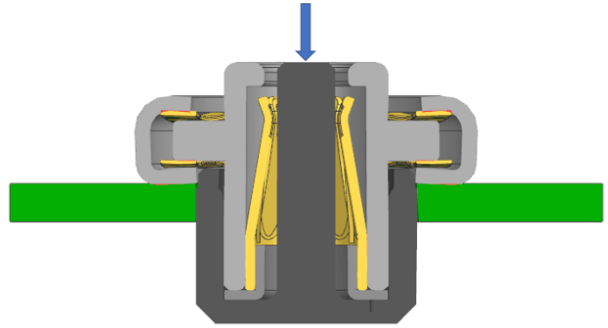

Figure 5.4.4
- e. If the force is being applied from the top as shown in the figure 5.4.4, make sure that the terminals and the floating region is not damaged during the application of force.